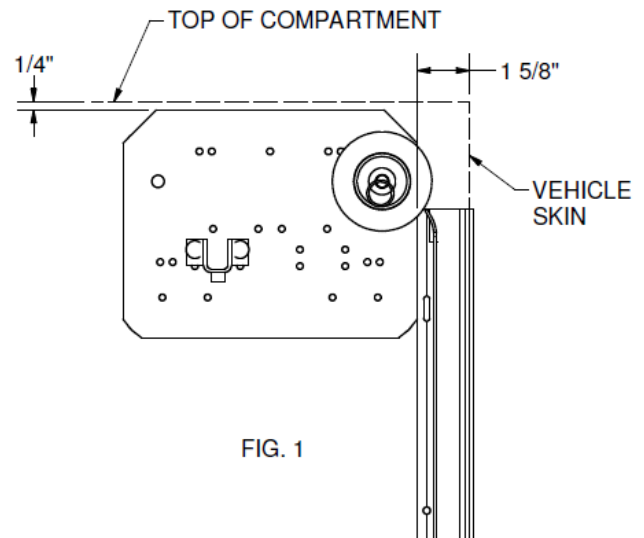

FIG. 1
- Looking into the compartment, place the pennant plate right-hand pennant plate label in the top right of the compartment as shown in Fig. 1. Make sure it is flush with the top of the compartment and 1-5/8" from the vehicle skin.